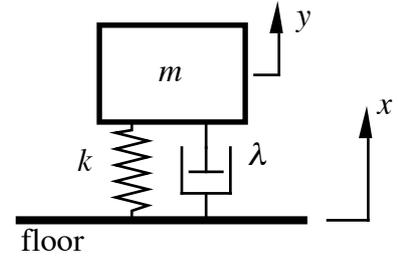

Fig. 5 (for Q. 8)
8. A mass  $m$  is supported on a spring of stiffness  $k$  in parallel with a dashpot of rate  $\lambda$  as shown in Fig. 5. The floor moves vertically with amplitude  $x$  and the mass responds with amplitude  $y$ . By considering the sum of forces acting on the mass, show that  $y$  is related to  $x$  by the differential equation